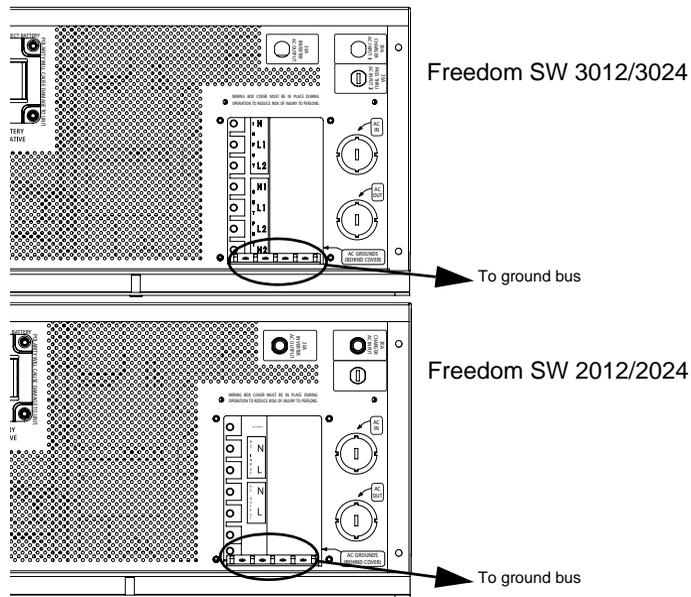

Figure 7 AC Wiring Compartment
AC Wiring Compartment For your reference, the AC wiring compartment is shown in Figure 7 on page 28.
Figure 7 shows the wiring compartment, which contains a grounding bus (used to wire the AC input and output ground wires) and a terminal block (used to wire the AC input and AC output connections).
8. Connect the line and neutral wires to the input terminals (labeled AC Input on the terminal block, Figure 7 on page 28).
10. Connect the ground wires to a free position on the ground bus, Figure 7 on page 28. If solid ground wire is being used, the wire can be connected directly under the screw heads. If stranded ground wire is being used, ring terminals must also be used.
5. Connect the line and neutral wires to the output terminals (labeled AC Output on the terminal block, Figure 7 on page 28) as follows:
7. Connect the ground wires to a free position on the ground bus, Figure 7 on page 28. If solid ground wire is being used, the wire can be connected directly under the screw heads. If stranded ground wire is being used, ring terminals must also be used.